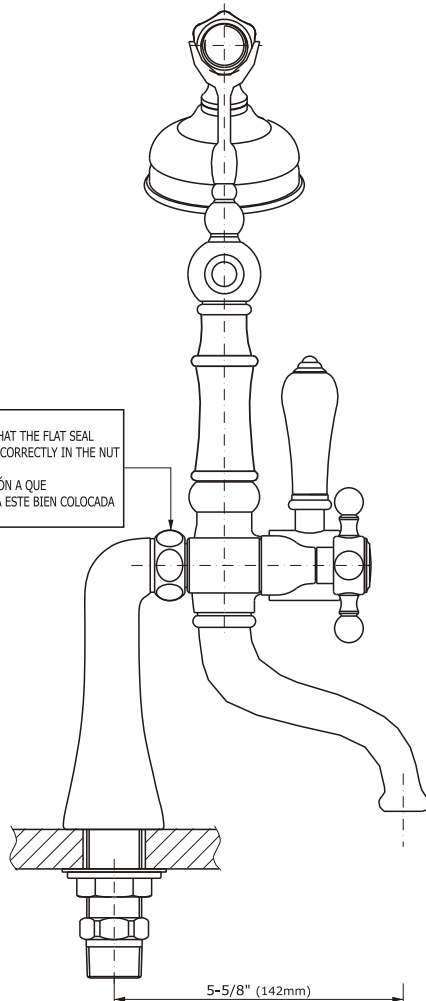

FIG. 1.1
1. Prepare two holes on the tub rim / deck. The holes should be spaced 6-59/64" (176 mm) between the centers and the diameter of the hole should be between 1-1/8" and 1-3/8" (29 to 35 mm) (fig. 1.1).